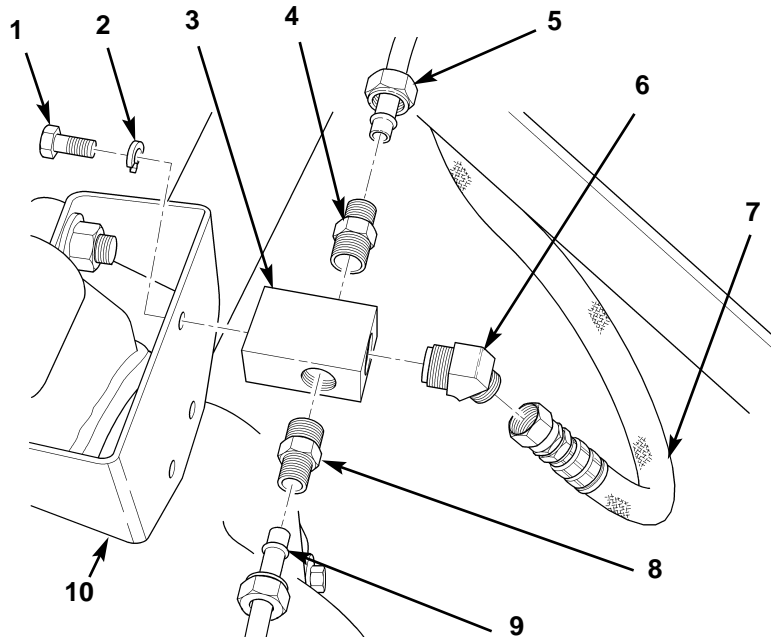

Figure 3. Installing Mountable Tee on Rear-Rear Axle Bracket.
8. Apply pipe joint compound to male pipe threads, and install elbow (figure 3, item 6) and two adapters (figure 3, items 4 and 8) on mountable tee (figure 3, item 3).
9. Install mountable tee (figure 3, item 3) on top hole of rear-rear axle bracket (figure 3, item 10) with new lockwasher (figure 3, item 2) and bolt (figure 3, item 1).
10. Connect hose assembly (figure 3, item 7) to elbow (figure 3, item 6) on mountable tee (figure 3, item 3).
11. Connect two tubes (figure 3, items 9 and 5) to two adapters (figure 3, items 4 and 8) on mountable tee (figure 3, item 3).